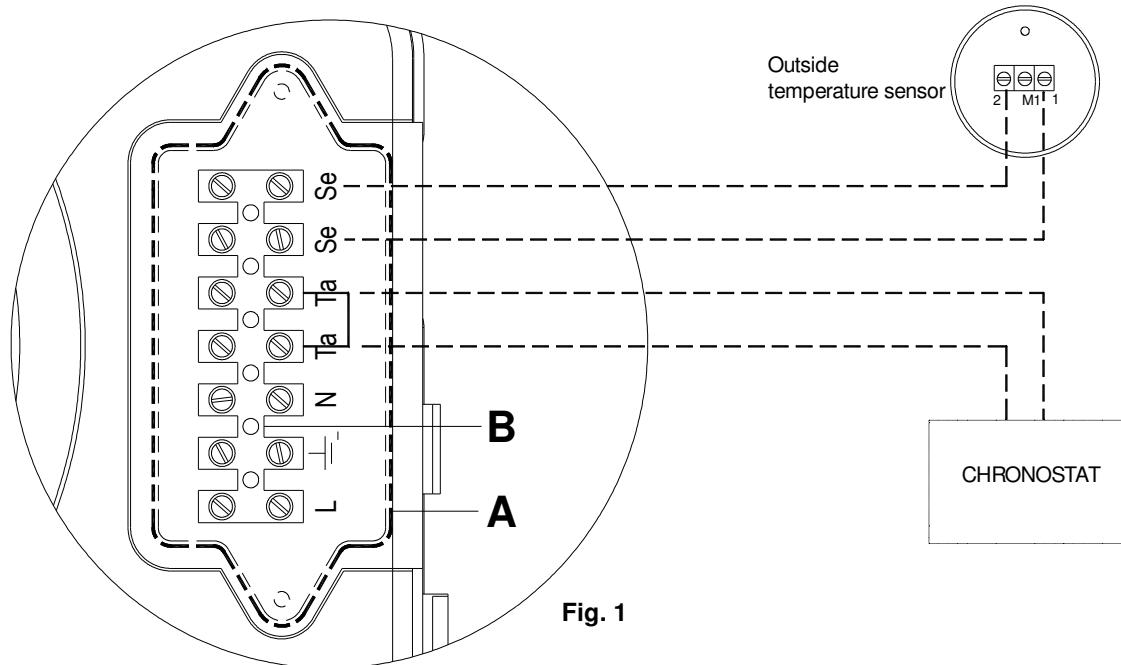

Fig. 1
- c. slacken the screws and remove plate A (see fig.1).